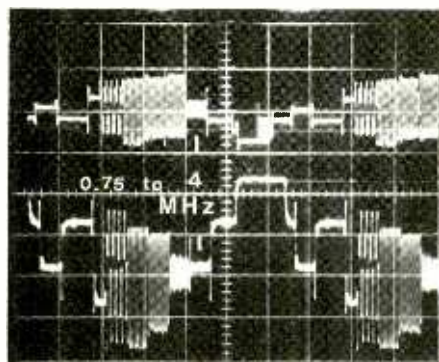
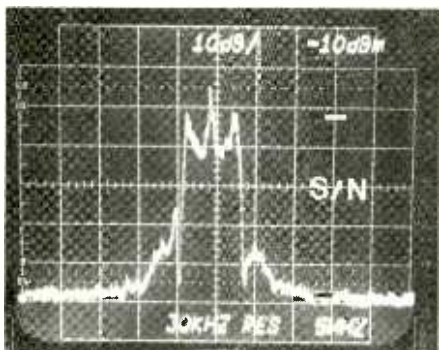

Fig. 3. Multiburst test at the video detector (top) and CRT (bottom).
Fig. 4. Spectrum analyzer display of luminance at the CRT.
**Laboratory Measurements.** RCA's charge-coupled comb filter supplies about 4 MHz (Fig. 3) to the CRT without crosstalk between chroma and monochrome. A high voltage of 29 kV and a warm white color CRT temperature measured at 6500°K (5800°K is average) produced a well-illuminated picture with fine contrast. Video S/N is 46 dB (Fig. 4); and vhf tuner/system signal pickup is -11 dBmV. An agc swing of 66 dB gives a fast response to aircraft flutter. Convergence is accurate; and overscan is a precise 8%.